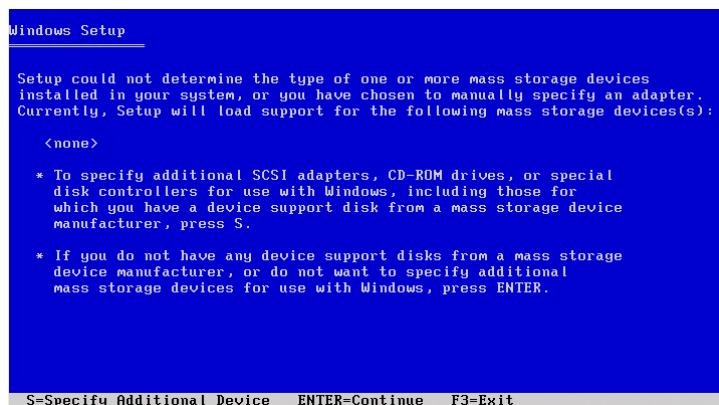

Figure 3-33. Specify Additional Device
4. After all drivers have been loaded for the standard devices (Figure 3-33), type **s** to select **Specify Additional Device**.